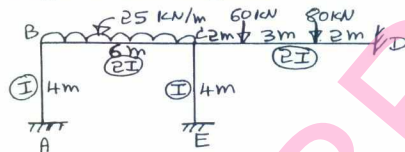

Fig.Q2
- 2 Analyze the rigid jointed frame as shown in Fig.Q2 by slope deflection method and also determine its bending moment diagram.